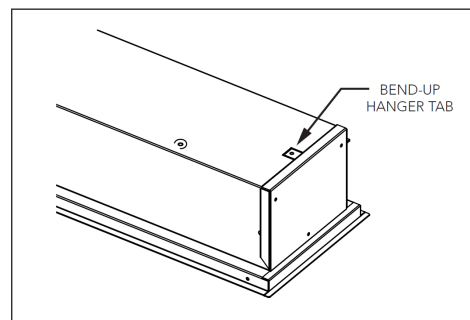

Figure 4
- For additional support, the bend-up hanger tab can be used to wire tie the fixture directly to the ceiling structure. (See Figure 4) Earthquake clips are also available as an option and separate installation instructions are provided for attaching them to the DuoCare™ fixture and properly using them in the installation.
1. Locate the wiring compartment cover on the side of the fixture and remove it from the fixture. The wiring compartment cover has (2) 7/8" diameter knockouts. (See Figure 4) One of these knockouts will be used for connecting the flexible metal conduit (FMC) for the building power. The other is provided for the interconnect whip with "Master/Satellite" configurations. Remove a knockout from the cover.